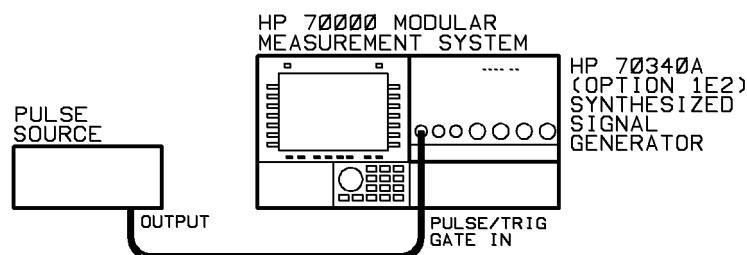

Figure 3-7. Doublet Pulse Equipment Setup
1. Connect the equipment as shown in Figure 3-7:
To program the signal generator to generate the pulses explained above, connect the equipment as shown in Figure 3-7, set the gate signal source for the desired gate pulse characteristics, and then run the following program.